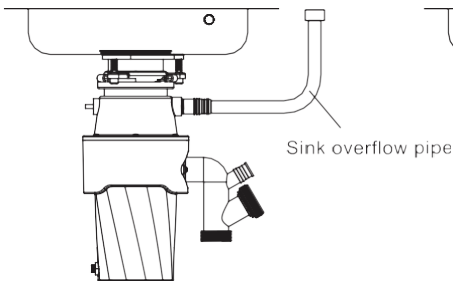

Figure 11
1. For the sink with overflow hole, pull out the soft plug on the overflow pipe interface (12 a), and then plug the overflow connection pipe (see Figure 11).